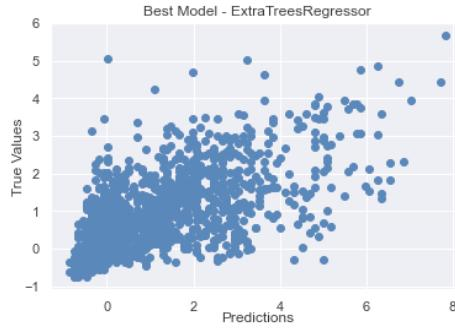

Fig 43
- f. Plotting the data for y_test_s and predicted data – scatterplot as below in fig 43.